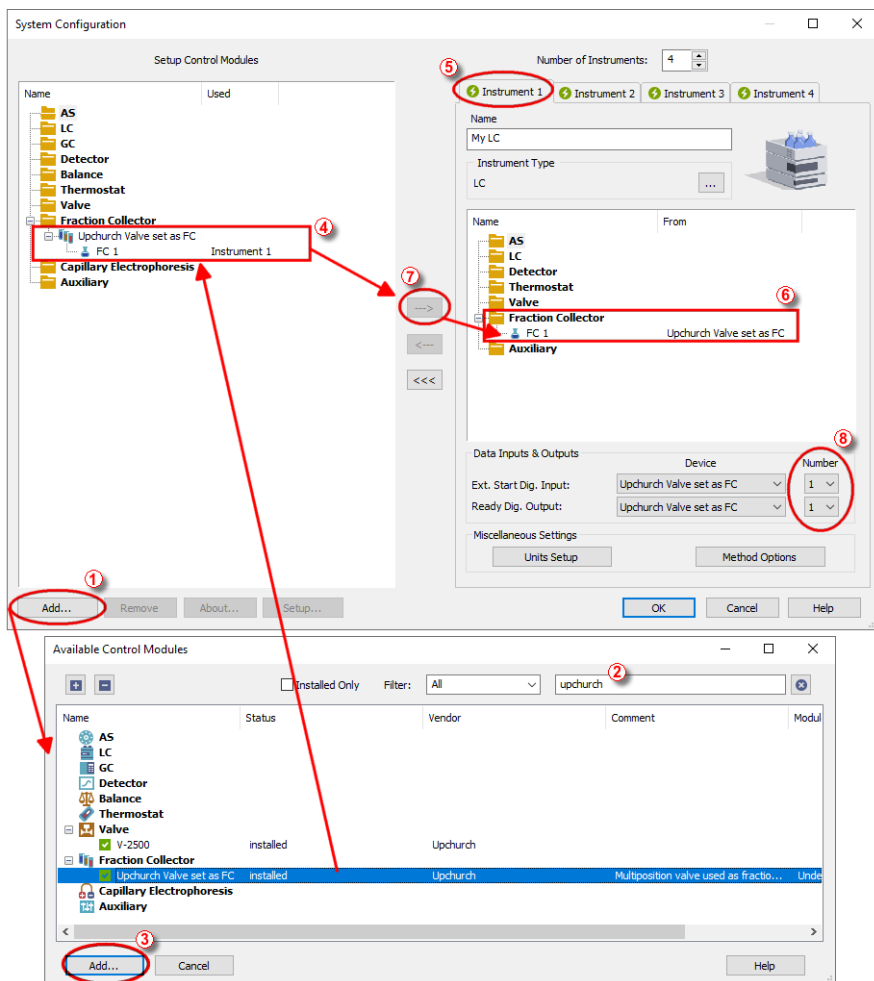

Fig. 3: How to add FC by Upchurch Valve
- Press the **Add** button (1 on Fig. 3 on pg. 4.) to invoke the *Available Control Modules* dialog.
- You can specify the search filter (2) to simplify the finding of the driver.
- Select the correct item and press the **Add** (③ on **Fig. 3** on pg. 4.) button. Each device with already created UNI profile should have its own item named accordingly in the **Available Control Modules** dialog.